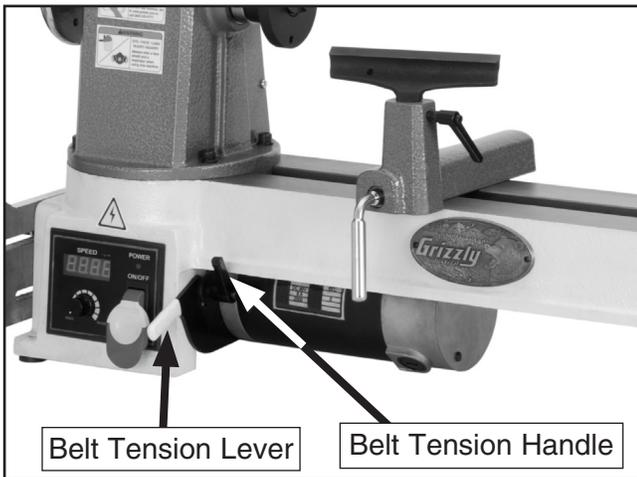

Figure 16. Belt tension lever.
2. Loosen the belt tension screw handle (**Figure 16**). Be sure the belt tension lever moves freely to release tension from the belt.